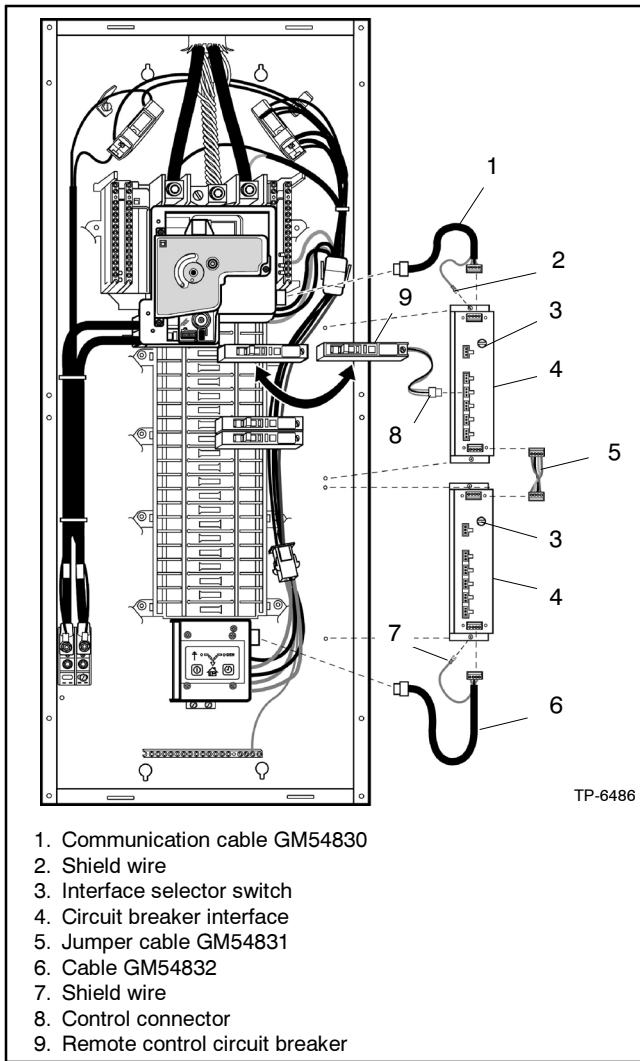
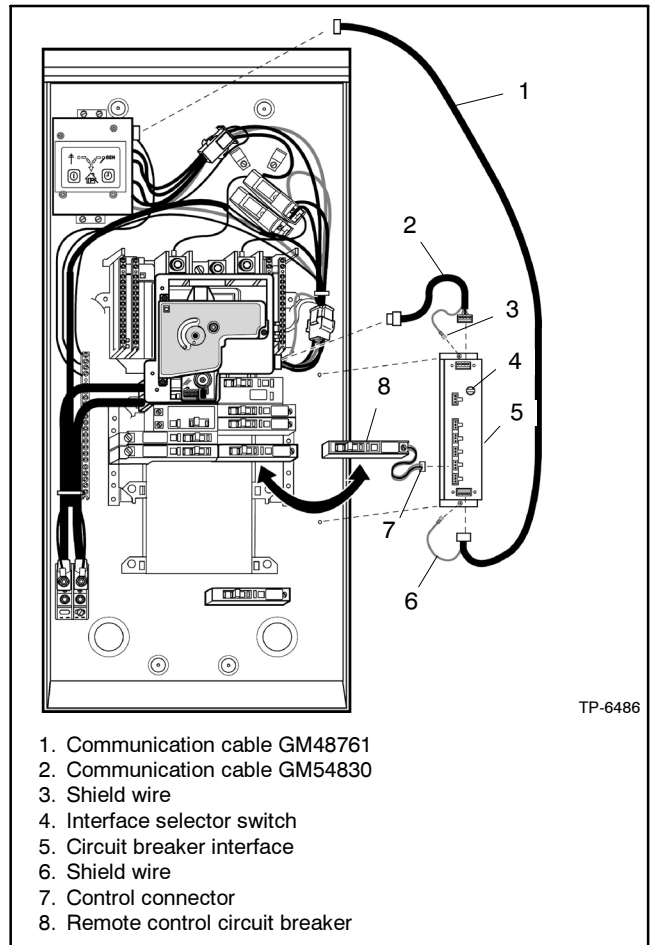

Figure 6 Circuit Breaker Interface Installation, Type 1 Enclosures
Figure 7 Circuit Breaker Interface Installation, Type 3R Enclosures
6. Place the circuit breaker interface in the load center as shown in Figure 6 or Figure 7 and loosely secure it with the two captive screws provided.
7. Referring to Figure 6 or Figure 7, install the communication cables provided with the circuit breaker interface:
- a. Slide the spade connector of the shield wire (Figure 6, item 7, or Figure 7, item 6) for cable GM54832 (Type 1) or cable GM48761 (Type 3R) between the mounting screw of the circuit breaker interface and the interface housing as shown in Figure 6 or Figure 7. Secure the mounting screw, taking care not to crush the shield wire connector. Connect cable GM54832 (Type 1) or cable GM48761 (Type 3R) to the bottom connector of the circuit breaker interface and to terminal TB1 on the generator control unit.
- b. Slide the spade connector of the shield wire (Figure 6, item 2, or Figure 7, item 3) for communication cable GM54830 between the mounting screw of the circuit breaker interface and the interface housing. Secure the mounting screw, taking care not to crush the shield wire connector. Connect cable GM54830 to the top terminal of the circuit breaker interface and to terminal J3 on the automatic transfer mechanism.
1. Before installing the circuit breaker, turn the circuit breaker handle to the OFF (O) position.
3. Plug the remote-controlled circuit breaker control connectors into the remote-controlled breaker module interface (see item 8 in Figure 6 or item 7 in Figure 7).
Follow the instructions in TT-1285, Program Loader Instructions. See Figure 6 or Figure 7 for the controller location.